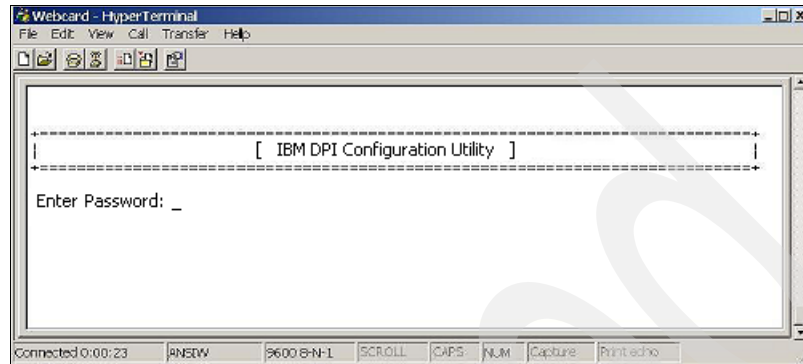

Figure 8-8 Enter a password
3. Click **OK** to start the session, then press any key to display the password prompt dialog box, shown in Figure 8-8. Enter the password. The default is passw0rd.